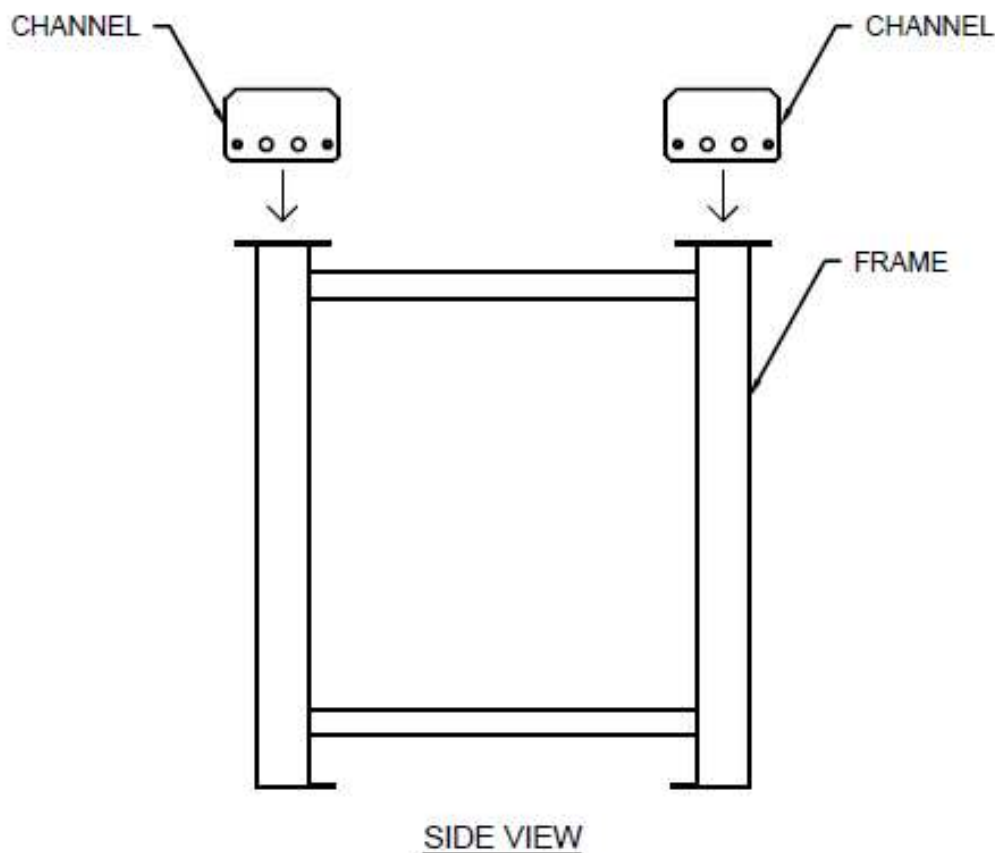

Figure 15: Double Frame Assembly
- 5.4. Bolt the top channel to the screens using the M12 bolts, washers and hexnuts. Ensure that the top cover locking plates and control channel chassis plate are also fixed during this process. See *Figure 15: Double Frame Assembly*.